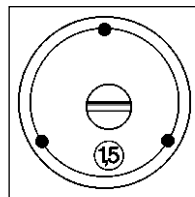

Figure 6: Selecting the lift (except SK 14, SK 14 short und SK 15)
11. **Setting of the lift (only SK 14, SK 14 short and SK 15):** A set screw with a view box is mounted on the rear of the gun. (Fig.6). The figure displayed in the view box is a measuring quantity for calculating the piston stroke. The piston stroke is always 1 mm more than the figure displayed. This ensures that even if the minimum of 1 mm is set, a lift can still be carried out as long as the protrusion is not set too high. The SK 14 gun has a rigid piston; therefore the figure shown in the view box is equal to the lift only if the protrusion is set at exactly 1 mm. The actual lift (length of the drawn arc) must therefore be calculated as follows: